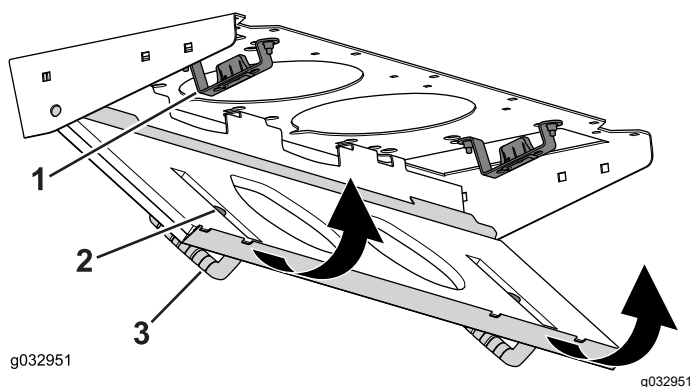

Figure 95
4. Rotate the filter screen around the tabs until the latch locks into the latch-mount assembly (Figure 95).